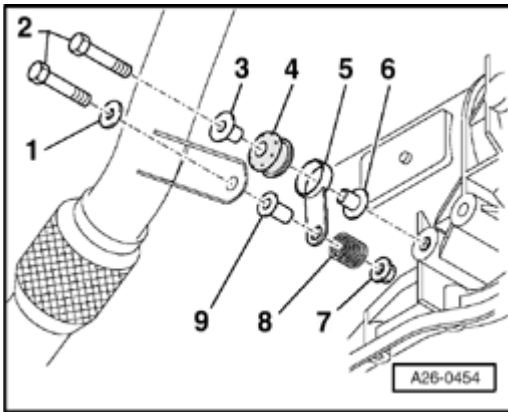

Fig. 482: Individual Right Mounting Components For Vehicles With Automatic Transmission 01V
- Individual mounting components for vehicles with automatic transmission 01V. See **Fig. 482**